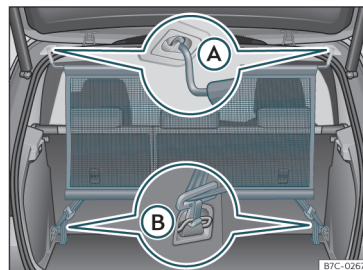

Fig. 122 Net partition fitted.
- Secure the net partition in the left housing of the roof»» Fig. 122 (A). Make sure to move the cross rod down beyond the upper position.
- Hook in the net partition on the rear right-hand side roof housing by pressing on the rod»» Fig. 122 (A).
- Secure two hooks of the partition net to the fastening rings of the boot»» Fig. 122 (B) and tighten the straps firmly.